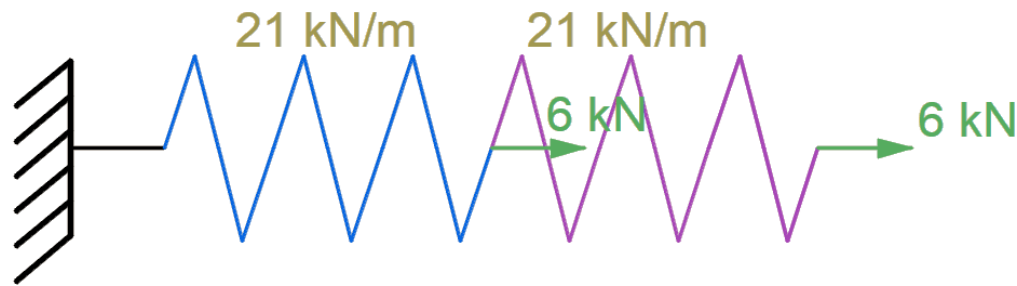

Figure 1
- Consider the structure shown in Figure 1